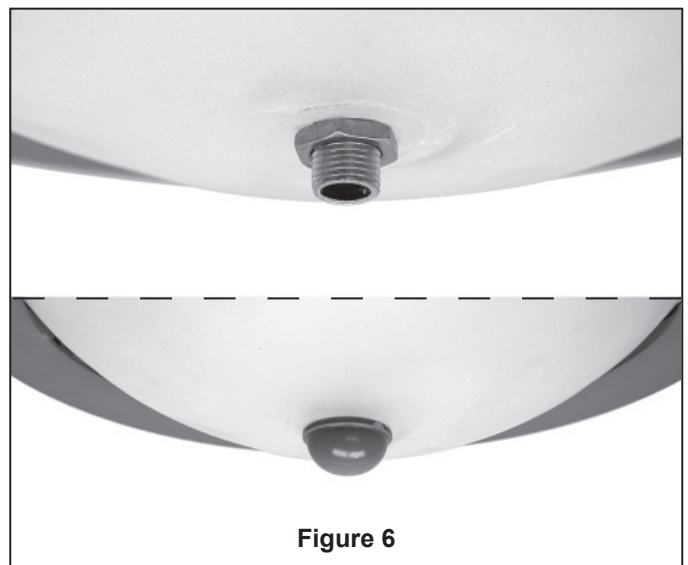

Figure 6
6. Securely attach Lower Glass by tightening hex nut and Finial Nut supplied with the fan. Don't overtighten. (Figure 6)